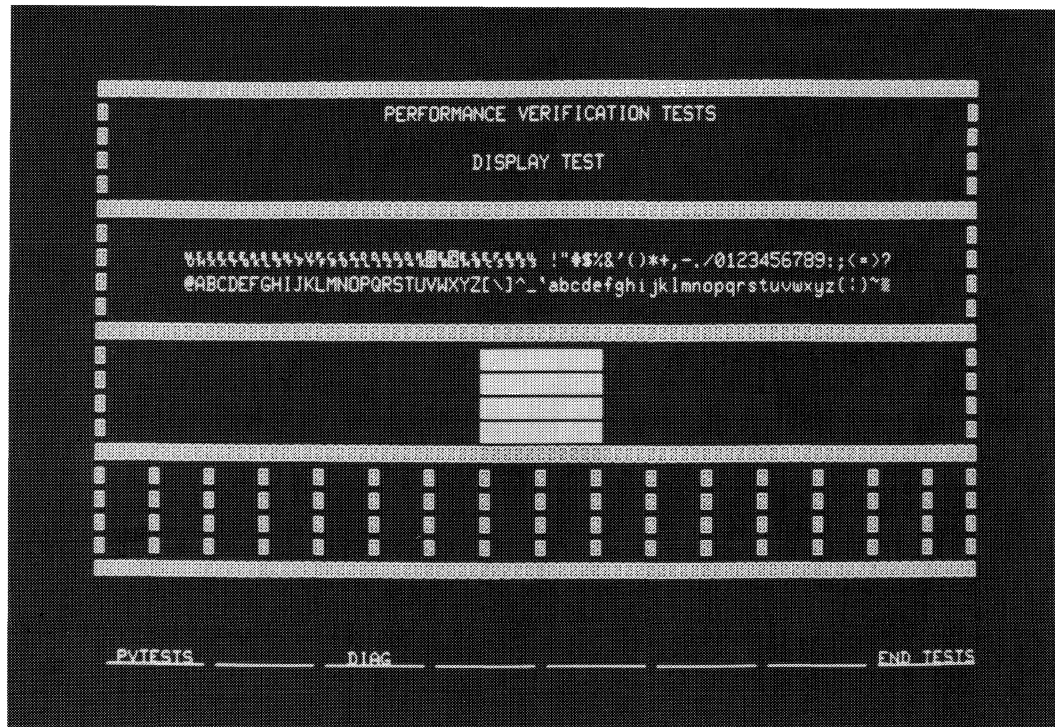

Figure 5-1. Display Test Pattern
- f. Set main power switch off then on. Note, the display test pattern should be on the screen. Refer to Figure 5-1.